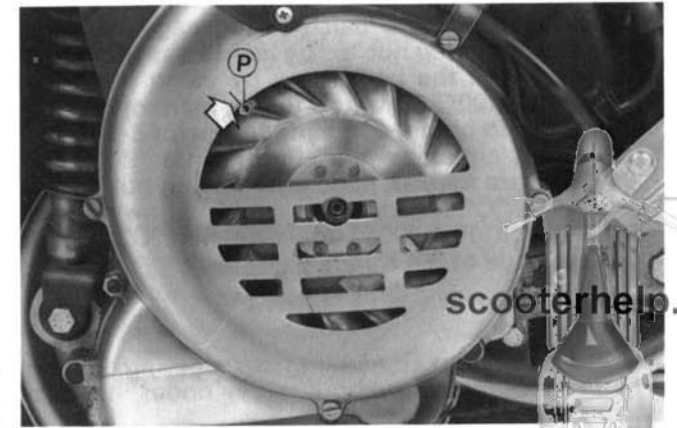

Fig. 58
2) - The correct timing of the engine is obtained when the pin "P" (fig. 58) is lined up, tolerance of $\pm 1^{\circ}30$, with the notch marked on the fan cover. When the conditions are not obtained or, however, image instability is noticed, proceed to the necessary controls and possible replacements as indicated on pages. 22÷25.
2) - El calaje del motor es correcto cuando el relieve "P" (fig. 58) está alineado, con respecto a la marca grabada sobre la tapa caracol con una tolerancia de $\pm 1^{\circ}30$.